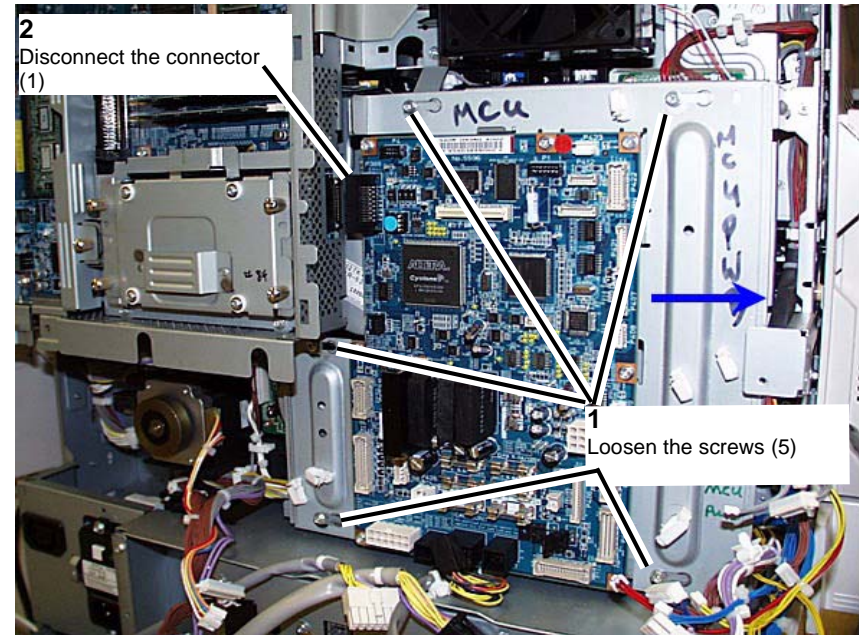

Figure 4 Disconnecting the P 389 connector on the MCU PWB
6. Loosen the screws (5) on the MCU PWB and slide the MCU to the right to disconnect the P 389 connector. (Figure 4)